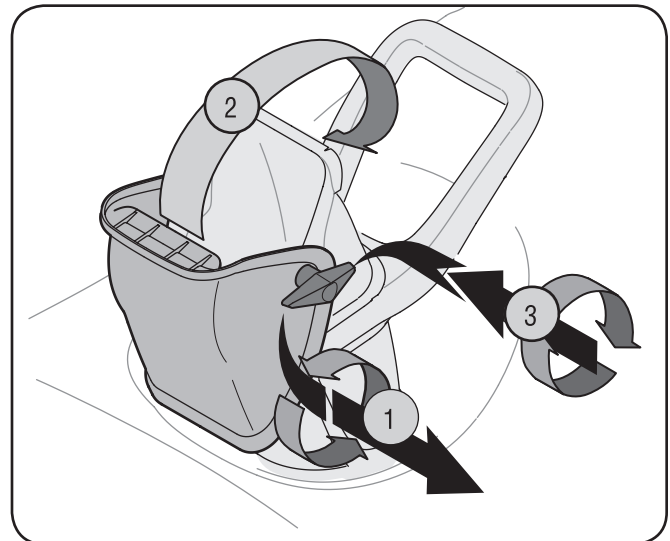

Figure 3-2
1. Remove the wing knob, flat washer and carriage bolt from the lower chute. See Figure 3-2.